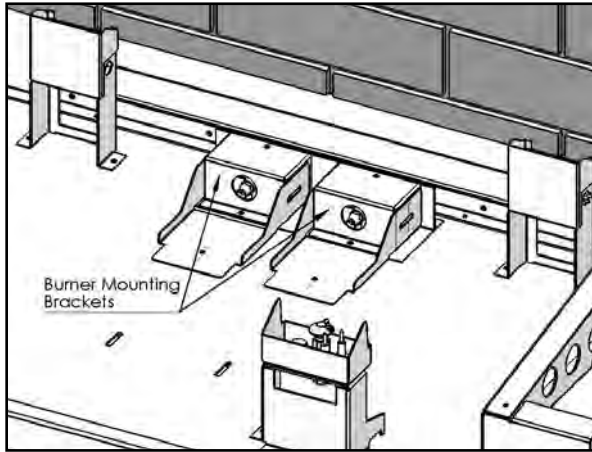
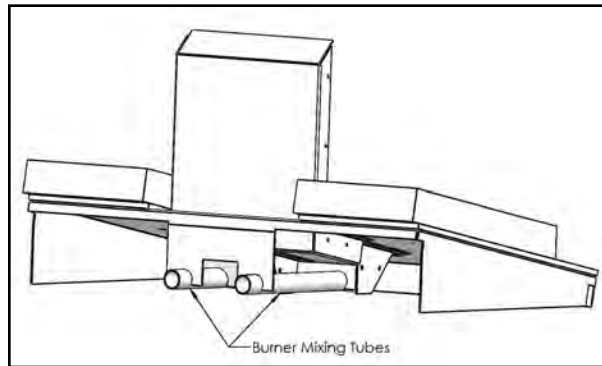
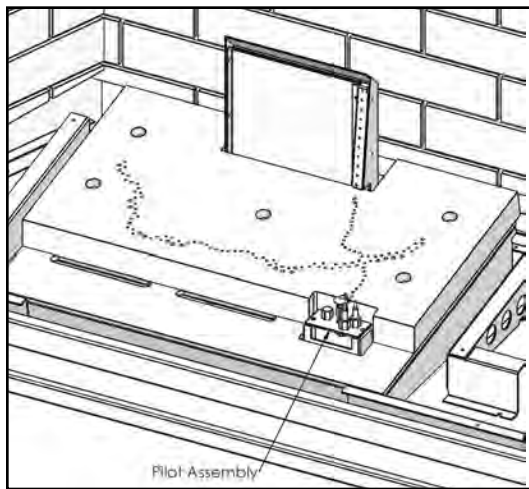

Figure 53: Burner Mounting Brackets.
Figure 54: Burner Mixing Tubes
Figure 55: Log Burner Over Pilot Assembly.
1. In the bottom rear of the firebox there are two (2) gas orifices in a housing that facilitate the air shutter mechanisms and the Burner Mounting Brackets are above them (See Figure 53). There are two (2) mixing tubes underneath the back of the burner (see Figure 54). Lift the burner into the firebox with the back of the burner tilted downward. Keep the burner high enough at the front to clear the pilot assembly. Line up the mixing tubes with the holes in the burner mounting brackets and slowly lower the front of the burner over the pilot assembly (see Figure 55).